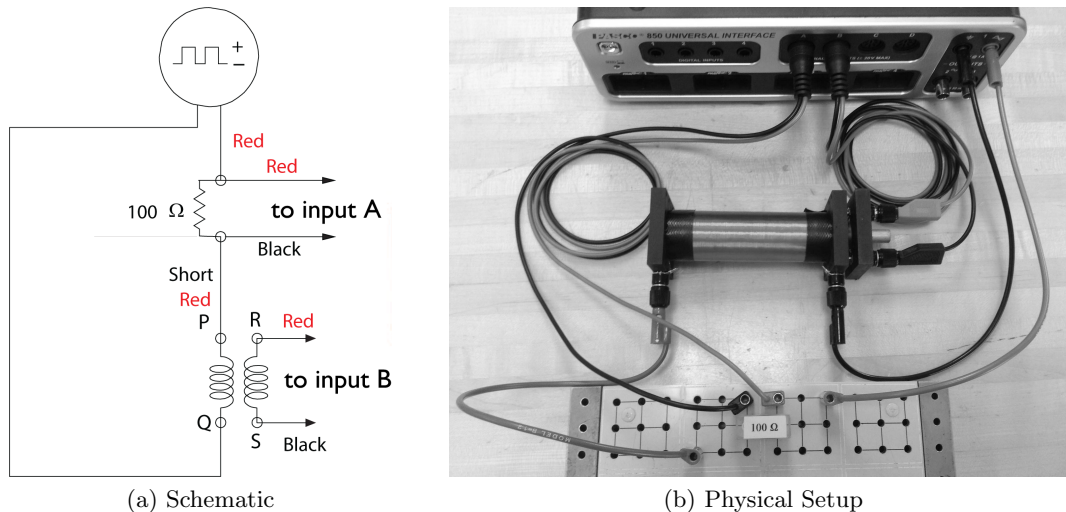

Figure 8: Schematic and physical setup
1. Set up the circuit shown in Fig. 8. Analog input A measures the voltage across the resistor, and is therefore proportional to the current through the outer coil. Analog input B measures the emf induced in the inner coil.